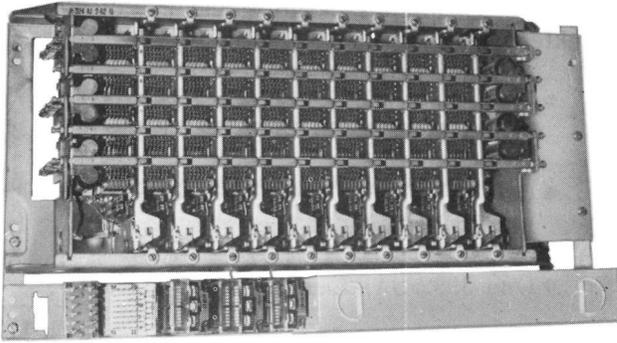

Fig. 7—Line, Link, and Connector Unit for Lines 40 to 49 or 50 to 59, Front View
2. PLUG-ENDED CABLES ARE PROVIDED ON SLIDE 1 FOR CONNECTING THE OPTIONAL 10-LINE SUPPLEMENTARY UNITS (FIG. 7 AND 8) INTO THE SYSTEM.
7. THE J87205B-1 (MD) RECTIFIER IS REPLACED WITH THE KS-19642 LIST I OR LIST 2 RECTIFIER IN THE LIST 10 AND LIST 11 CABINET ASSEMBLIES.
(l) **J53035BB, List 1 Line, Link, and Connector Unit:** The 10-line supplementary unit required to expand the basic 20-line system to 30 or 40 lines (Fig. 7 and 8).